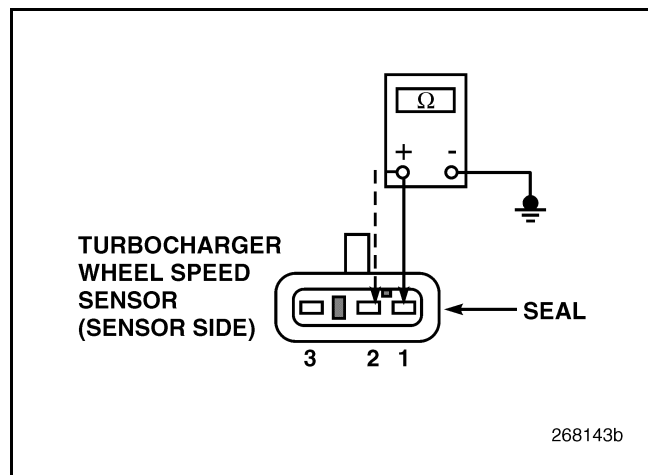

Figure 616
3. Check for continuity between pins 1 and 2 of the TWS Sensor and a good ground (see Figure 616).